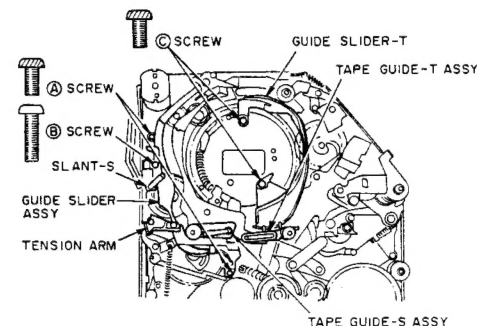

Fig. 3-35
6. Remove the two A screws and B screw then remove the GUIDE SLIDER ASSY, TAPE GUIDE-S ASSY and SLANT-S as shown in Fig. 3-35.